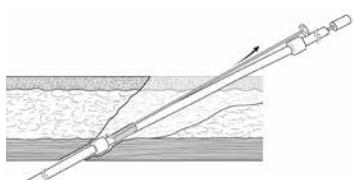

Figure 30
3. Retract Cuff Implantor Tool, parallel with the catheter, without dislocating or moving the distal cuff (Figure 30).